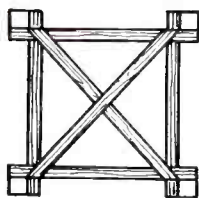
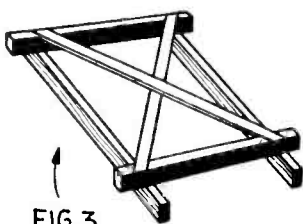

FIG. 4
FIG. 3
The mast consists of four longerons, each 60 feet in length, made up of 2 x 1 inch clear pine, and is braced with ordinary lath or wood of similar dimensions, and some of the 2 x 1 pieces are shown in Fig. 3. The highest five feet of the mast are covered with plywood and with one piece of wood at the top, as shown in Fig. 4; this is made as waterproof as possible. It is advisable to paint the entire mast with creosote or some tar-content roof paint. It will simplify the painting very much if the longerons and each section are painted as they are completed. A concrete base must be (or should be) prepared for the mast to rest on, and should extend well below the frost line, be absolutely level and mixed to procure the hardest stone possible.
Fig. 2 above shows how longerons are lapped; other details of construction are shown by Figs. 3, 4, 5 and 6.
crosses" along the entire length of the mast, you will obtain a very perfect looking job. When you have criss-crossed up to within 5 feet of the top, fit a piece of plywood over the remaining distance, as shown in Fig. 4. When this is completed you have finished one section of the mast.
Now take the other two longerons and duplicate exactly the section you have just completed. When these sections are finished and painted stand them on their sides, absolutely parallel to each other, with the braces facing outward. Establish temporary braces and string lines the entire length of the mast, so that when you nail and glue the braces on the sides they will exactly duplicate the sides you have just completed. At the bottom place a brace, as shown in Fig. 3, using pieces of the 2 x 1 for the square braces and the laths for the criss-cross. Place one of these at the bottom, and others approximately every 8 feet, all the way up. These braces will look better if you space them evenly with one of the horizontal braces between the "criss-crosses" each time.
When you have placed all the "square-braces" you are ready to fit your board on the bottom on one side and proceed up to the top as before with the horizontal braces and the "criss-crosses." When you have finished this side, turn the mast over and finish that side. When you have thus completed the four sides, finish off the tip with plywood (which may be taken from an old packing box). Glue and nail this in place and finish off the top as shown in Fig. 4.
(23) Chas. Vogel, Bronx, N. Y., wants to know:
Q. 1. Is a rheostat necessary in the circuit shown in Fig. 4 (page 51, June-July issue of SHORT WAVE CRAFT)?